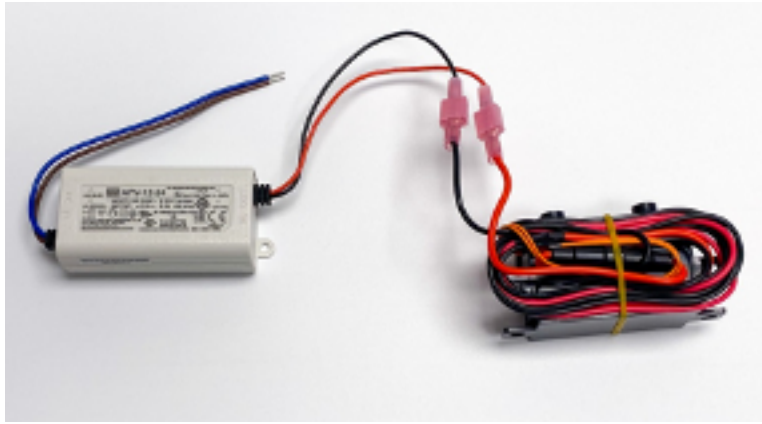
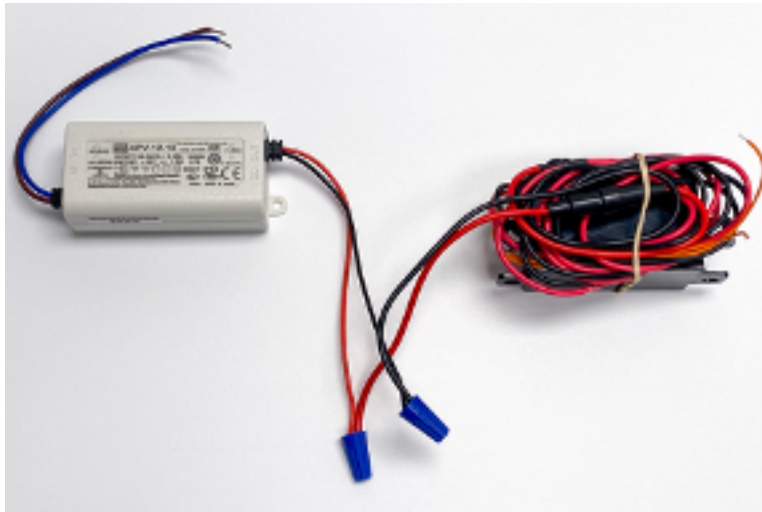

Figure 6: Example assembly with crimp connectors.
Figure 7: Example assembly with twist-on wire connectors.
- a. Twist-on wire connectors (Figure 7) and crimp connectors (Figure 6) are both acceptable methods of connecting low voltage wires.
- a. Twist-on wire connectors (Figure 7) and crimp connectors (Figure 6) are both acceptable methods of connecting low voltage wires. .